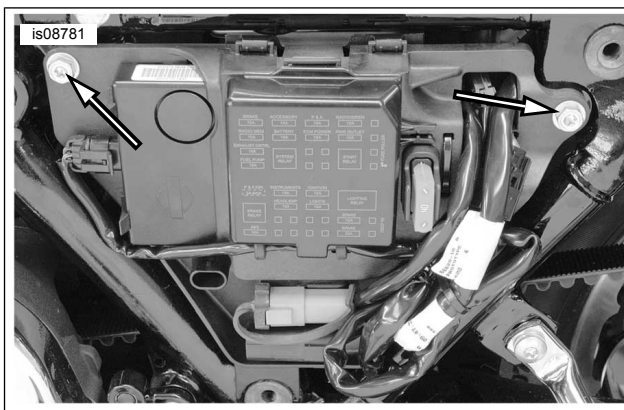
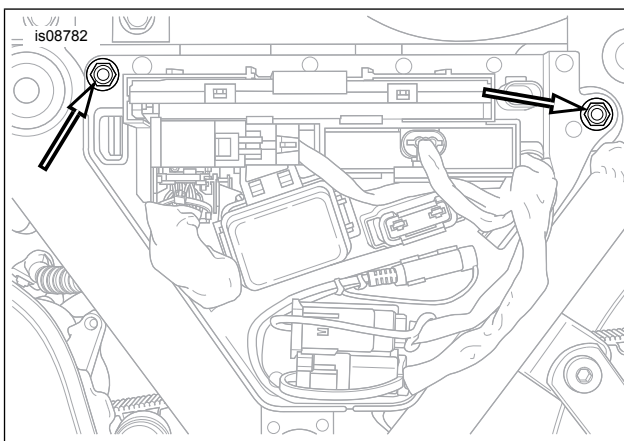
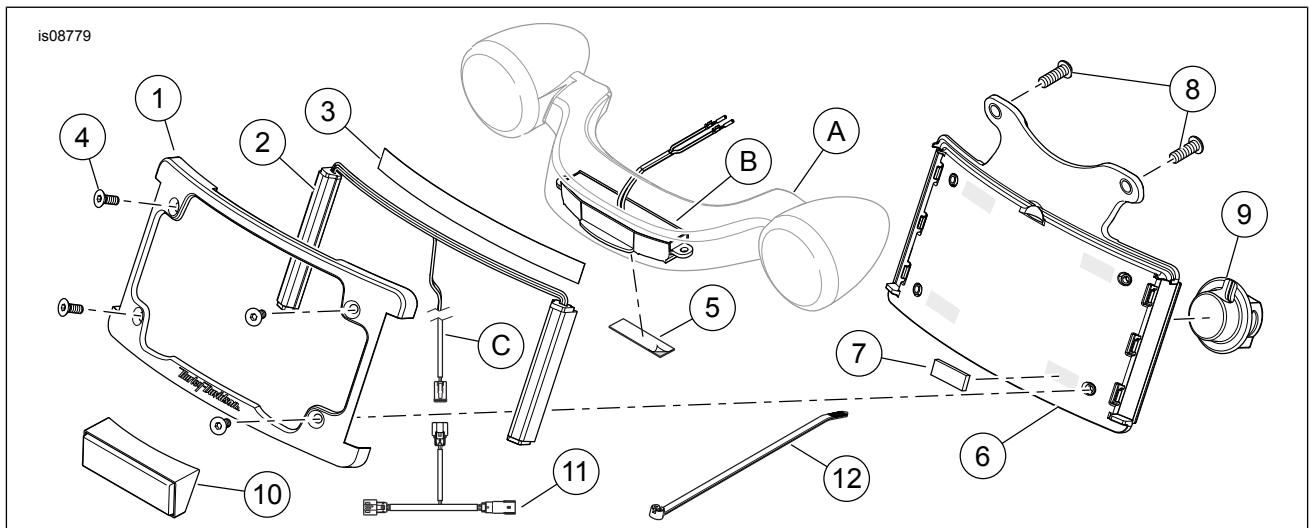

Figure 2. Remove Electrical Caddy Screws (2010-2013 FL Models)
Figure 3. Remove Electrical Caddy Screws (2014-Later FL Models)
Figure 5. Service Parts, LED Curved License Plate Frame and Mount Kit
See Figure 5 and Table 1.
1. See Figure 5. Remove the chrome/black frame (1) from the Curved License Plate Frame assembly. Retain the four flat head screws (4).
2. Remove and retain the two screws securing the light bar (A) to the fender. Carefully pull the light bar away from the fender.
7. Remove and discard the OE fender grommet. Get the new grommet (9) from the kit. See Figure 5.
8. Route the light bar and Curved License Plate Frame harness (C) through the split grommet into the underside of the fender.
9. **2014-later models:** Mount the Curved License Plate Frame mount assembly (1) and OE reflector assembly to the light bar (A). Use two **new** screws (8) and the washers saved earlier. Tighten to 6.8–9 N·m (60–80 in-lbs). **2010–2013 models:** Mount the Curved License Plate Frame mount assembly (1) to the light bar (A) with the two screws and washers saved earlier. Tighten to 6.8–9 N·m (60–80 in-lbs).
12. **2010–2013 models:** See Figure 2. **2014-later models:** See Figure 3. **ALL models:** Remove the two screws securing the electrical caddy. Tip the caddy outward.